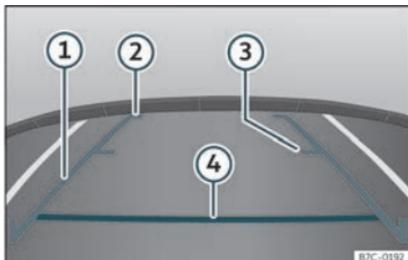

Fig. 248 Display on the Easy Connect system screen: guide lines.
- Vehicle load modifies the representation of the guide lines >>> Fig. 248. The width represented by the lines decreases with vehicle load. Pay special attention to the surroundings when the inside of the vehicle of the luggage compartment are loaded.
» **Fig. 248**